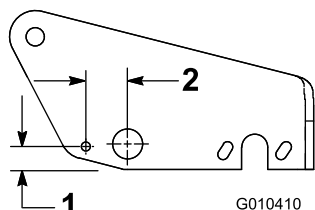
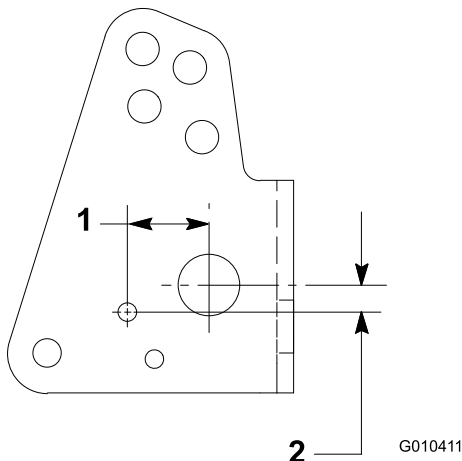

Figure 9
Figure 10
- A. Use the dimensions shown in Figure 9 for the **Greensmaster 3100** and Figure 10 for the **Greensmaster 3050**, to mark the frame.